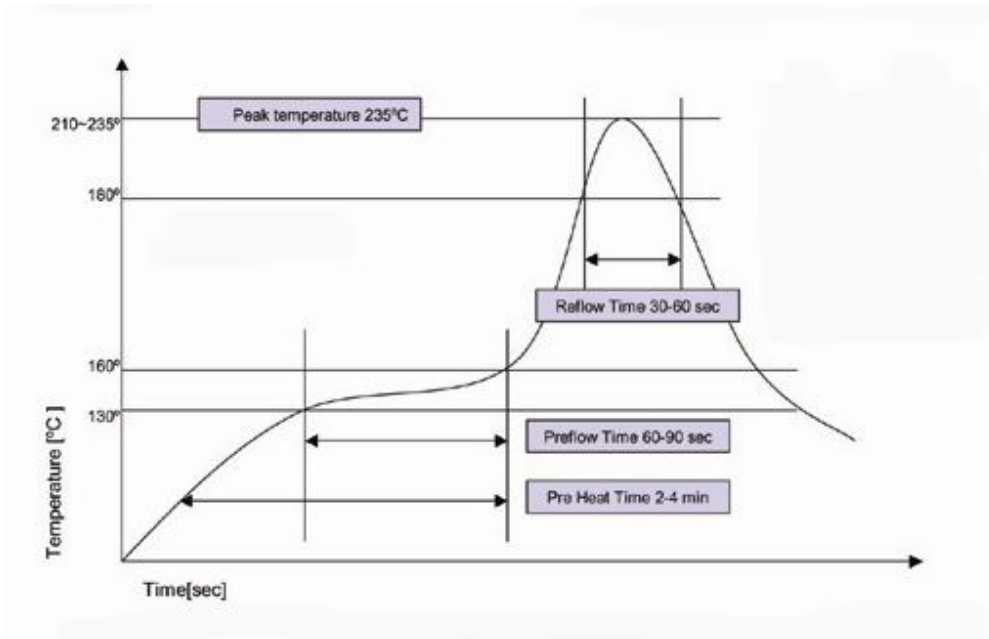

Figure 5 – Low Temperature Eutectic Solder ( 63/37) Reflow Thermal Profile
**Reflow:** The surface mount coupler is conducive to most of today's conventional reflow methods. Low and high temperature thermal reflow profiles are shown in Figures 5 and 6, respectively. Manual soldering of these components can be done with conventional surface mount non-contact hot air soldering tools. Board pre-heating is highly recommended for these selective hot air soldering methods. Manual soldering with conventional irons should be avoided.